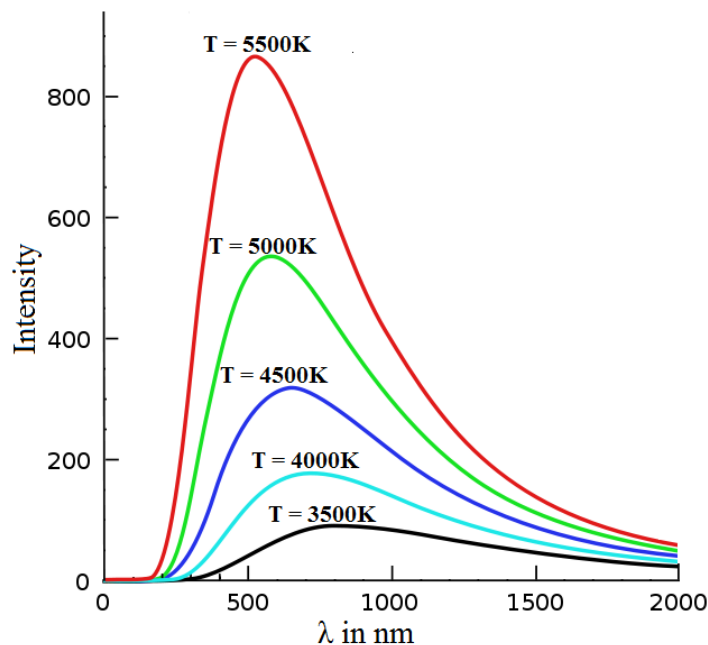

Fig. 4. Blackbody spectrum
**Planck's law:** Planck's law states that the intensity of electromagnetic radiation emitted by a blackbody is a function of frequency (or wavelength). Black body will radiate energy at all frequencies. The Planck's law gives a distribution that peaks at a certain wavelength, the peak shifts to shorter wavelengths for higher temperatures, and the area under the curve raise rapidly with increasing temperature (see Fig. 4.).
The *Wien law* provides the wavelength of the peak of the radiation distribution, whereas the *Stefan-Boltzmann law* gives the total energy emitted by the blackbody at all wavelengths (i.e., the area under the curve of Planck Law (see Fig. 4)).